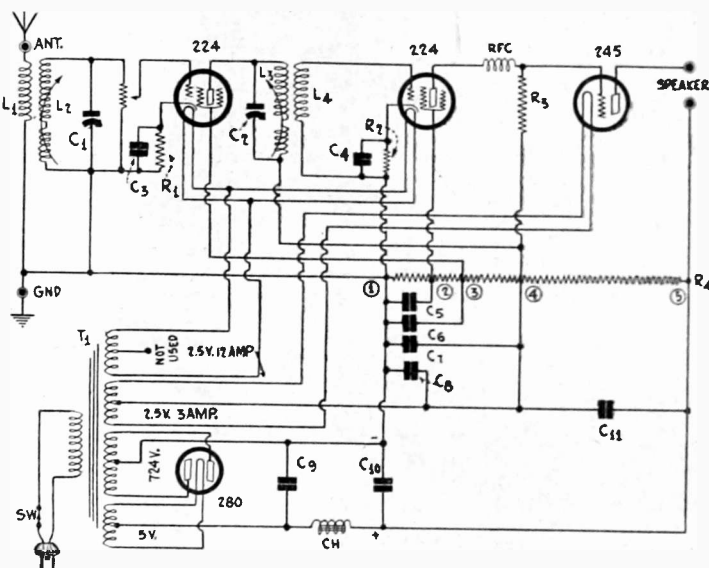

FIG. 1
The diagram has been arranged so as to make it easy to distinguish the features of the newly popular non-reactive circuit and the radio frequency stage. With this in view, the positive of the B supply is shown below in Fig. 1, instead of on top. Thus at a glance one can appreciate that the output potential of the rectifier is dropped across the voltage divider R4, zero potential being (1), and the higher potentials being (2), (3), (4) and (5) respectively.